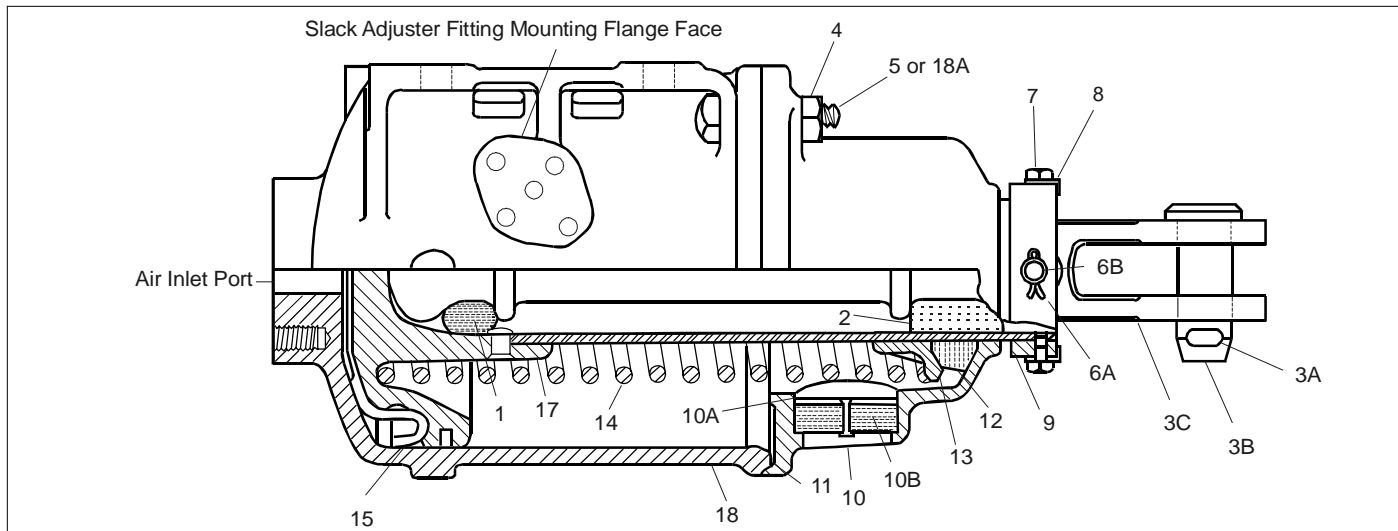

Figure 2 - Assembly View
2.0 OPERATION (Figure 2)
The exterior shape of a particular "UAHT" Brake Cylinder and some of the internal parts may differ in size and shape from those shown in the assembly and exploded views. The views shown in Figures 2 and 3 are representative of the parts and do not show the exact shape or style.
(Figures 2 & 3)